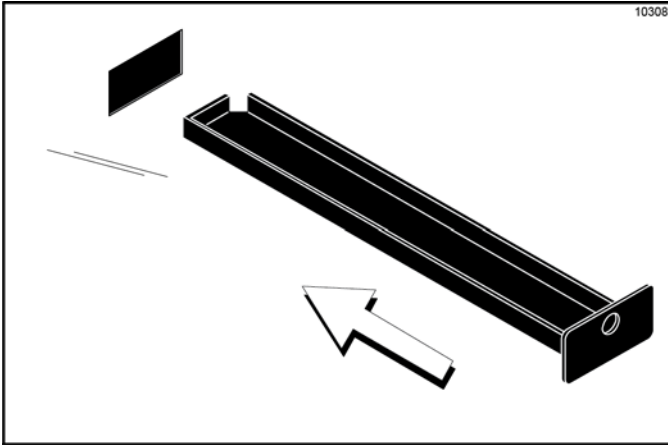

Figure 6-33
- Slide the two shorter drip pans into the holes in the rear panel. Slide the two notched drip pans into the left and right side panels. (See Figure 6-33.)